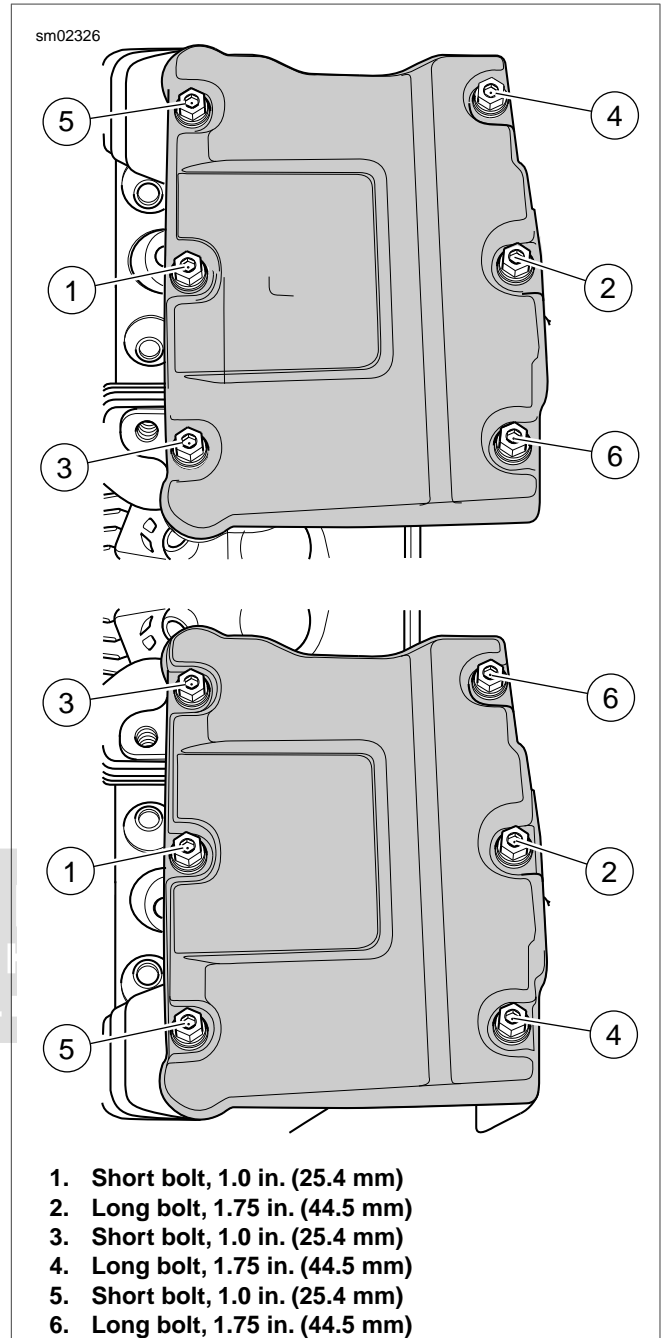

Figure 3-45. Rocker Cover Bolts Torque Sequence
1. See Figure 3-45. Alternately tighten the two bolts to secure breather assembly to 90-120 **in-lbs** (10.2-13.6 Nm).
3. Figure 3-45. Install rocker cover bolts.